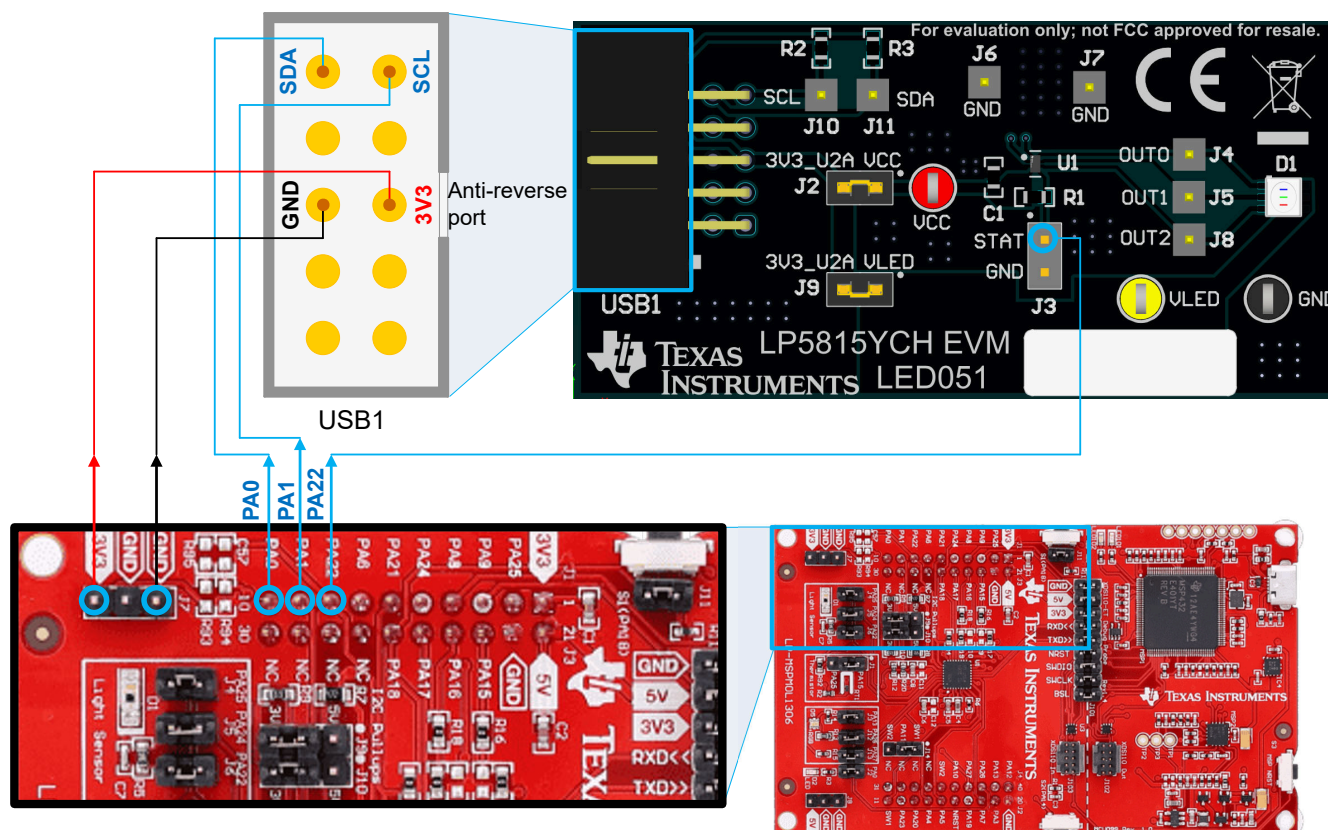

Figure 2-1. Hardware Connection
Keep the default jumper settings on the LP-MSPM0L1306 evaluation board. The LP5815YCHEVM evaluation module can be powered directly from the 3.3V power of the LP-MSPM0L1306 evaluation board and does not need an external power supply. The power and I2C connections are demonstrated in Figure 2-1. The setup procedure is as follows:
2. Refer to Figure 2-1 to connect the GND, SCL, SDA, STAT and 3.3V ports of the LP5815YCHEVM evaluation module to the LP-MSPM0L1306 evaluation board.